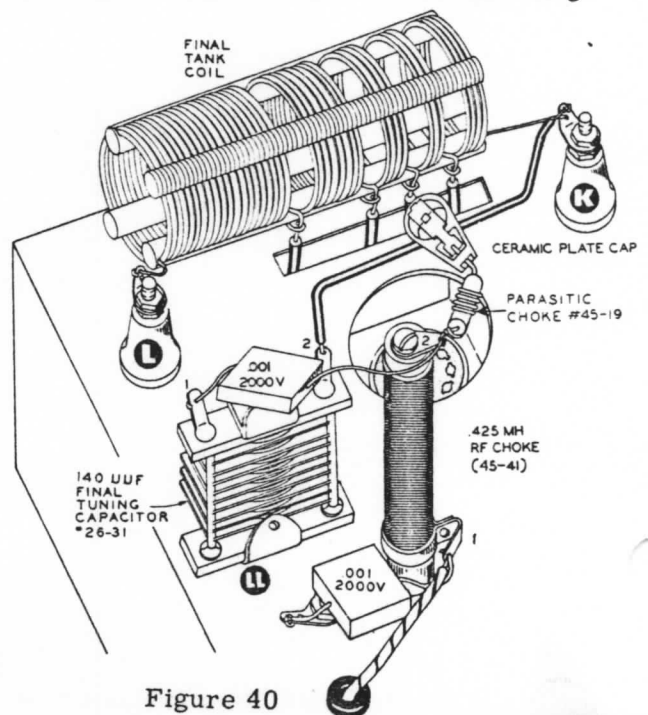

Figure 40
- (✓) Mount the .425 mh RF choke (#45-41) on the driver coil mounting screw just in front of the final tuning capacitor, as shown in Figure 40. Use a #6 fiber washer over the coil mounting screw and nut. Do not tighten excessively. Bend the #2 choke lug flat so this connection is no higher than absolutely necessary. Form the #1 choke lug as shown to facilitate tightening.